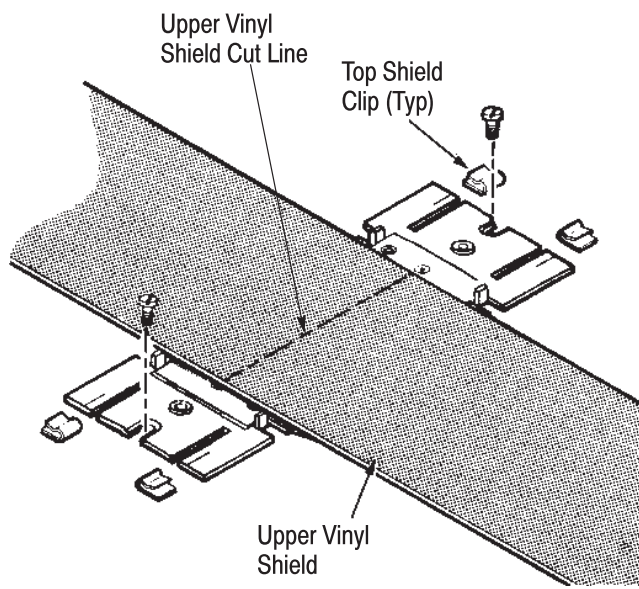

Figure 4
5. Cut upper vinyl shield in the center of the mounting plate. See Figure 4.